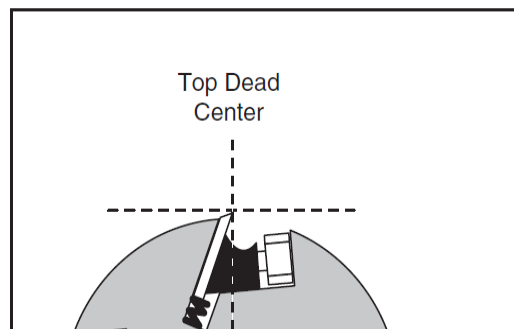

Figure 10
2. Rotate the cutterhead by turning the cutterhead pulley until one of the knives is at top-dead-center(TDC), as shown in Fig.10